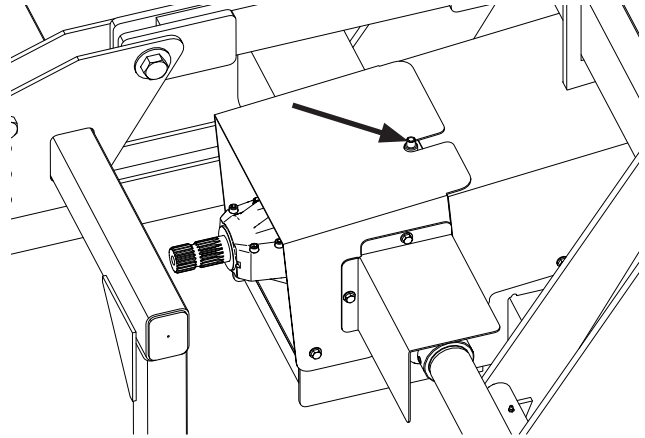

Figure 27. Gearbox Oil Fill/Dipstick Location
1. Check gearbox daily or every 8 hours of operation. See Figure 27 for gearbox oil fill location